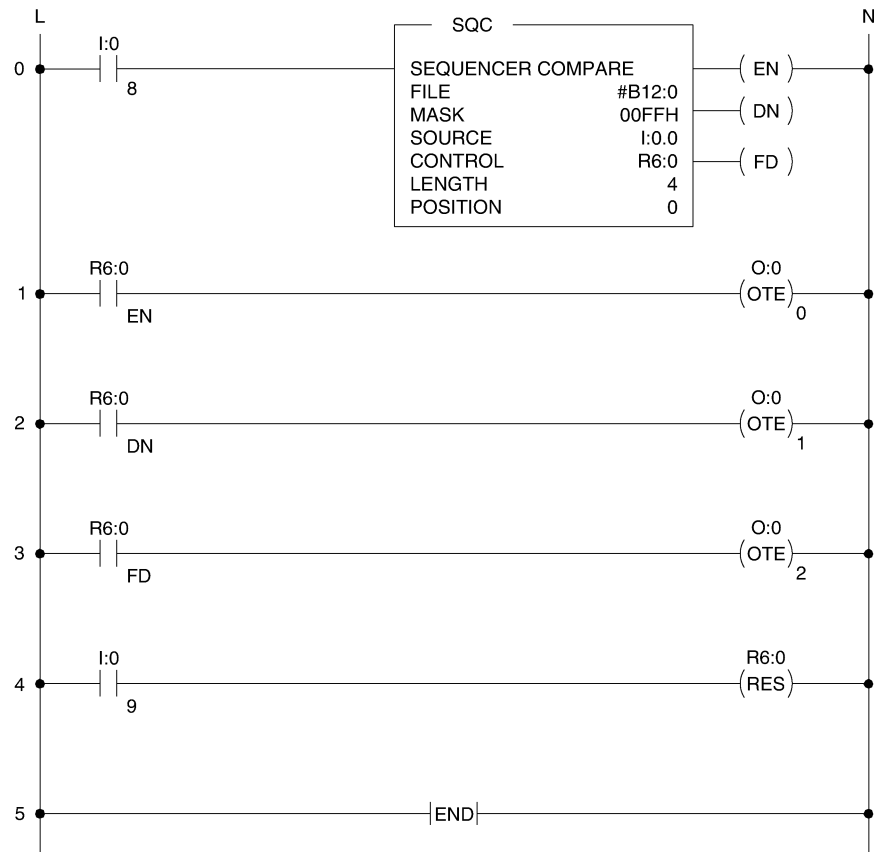

Figure 7-4. The SQC instruction.
- 31. Modify the existing main ladder program of project EXERC\_7 as indicated below in order to obtain the ladder program shown in Figure 7-4:
The main ladder program in RSLogix 500 should be identical to that shown in Figure 7-4.